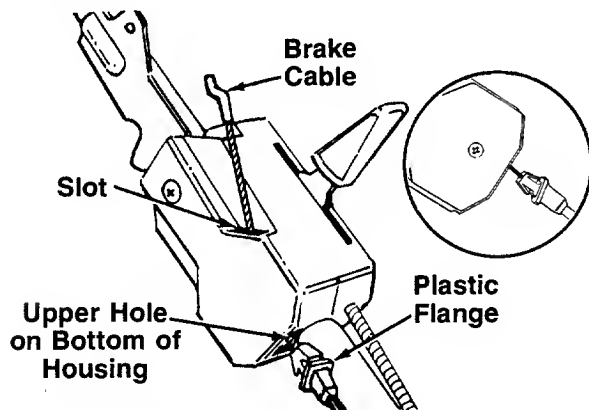

FIGURE 4.—Model 312 Shown
1. The brake cable is attached to the engine, and has a "Z" fitting on the loose end. Route the brake cable below the lower handle. Place end of cable into the upper hole on the bottom of the control housing, and through the slot as shown. The angle of the plastic flange must be positioned downward as shown in figure 4. Be careful not to bend or kink the cable at any time.